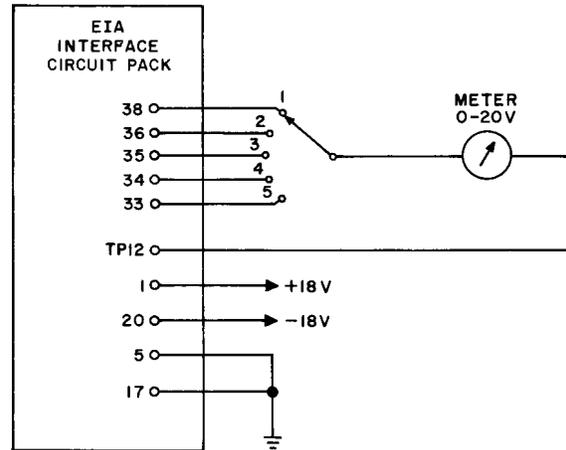

Fig. 40A — EIA Interface Test Circuit
7.08A Input Regulator Diode Test: With the circuit pack connected to the suggested test circuit shown in Fig. 40A, connect ground to terminals 5 and 17, +18.0 (± 0.5) Vdc to terminal 1, and -18.0 (± 0.5) Vdc to terminal 20. Measure the voltage between the input and test point 12 of each of the five driver inverters by rotating the switch through positions 1 to 5. This voltage should be +9.3 (± 1.0) Vdc.